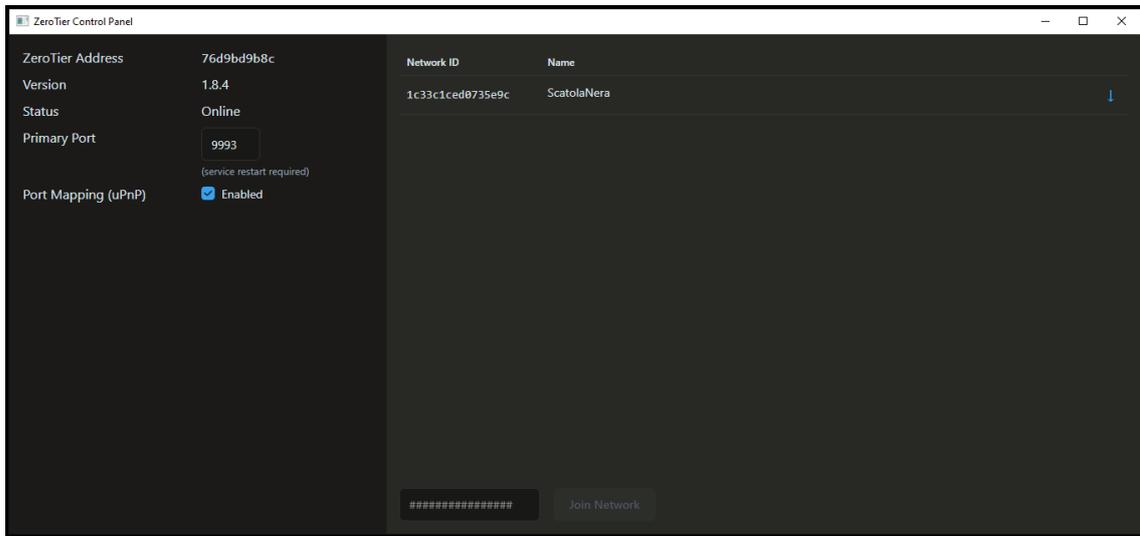

Figure 7: Control Panel 3
- 5 Once we'll add your computer to your new network, your control panel will show both the network ID and the name of your network as in Figure 7: Control Panel 3.